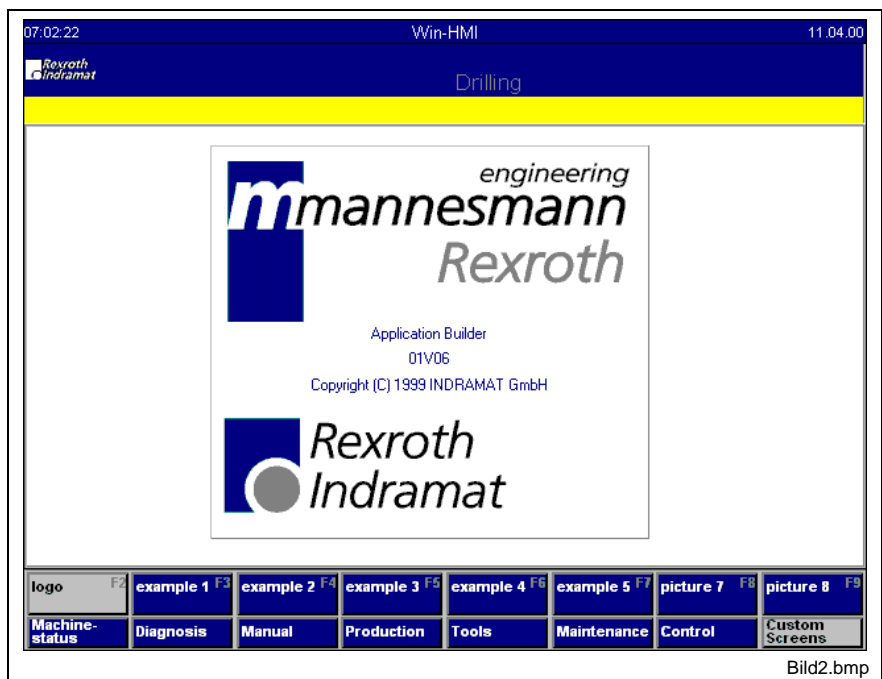

Fig. 2-7: Logo example in HMI
**Inserted Bitmaps** The resources of the Specialpicture.cgw file contain an **IwSpecialpicture** MDI window. This MDI window contains the Info message (see Fig. 2-7). The internal structure of the Info message can be viewed in the Navigator (see Fig. 2-8):
- (1): HMI\_SpecialPicture.cgw opened
- (2): IwLabel in the Navigator
- (3): IwLabel in the window
- (4): Rexroth.bmp